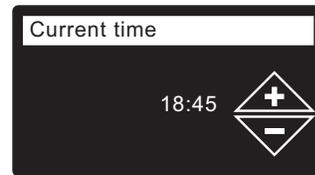

FIG. 22
11. **CURRENT TIME** Press the DOWN (▼) or UP (▲) buttons to set the current time (See Figure 22). Hold the button down to rapidly advance. Be sure that AM or PM is correct. If the system units were set to metric in Step 9, the clock will be in 24-hour format.
12. Press the SELECT (O) button.